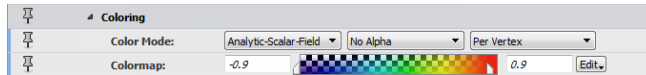

Figure 5.47: Parameters modified in the *Line Set View* module for coloring the tubes.
- Use the **Colormap** port to change colormap and data range. See Figure 5.47 for more details about the parameters to modify.